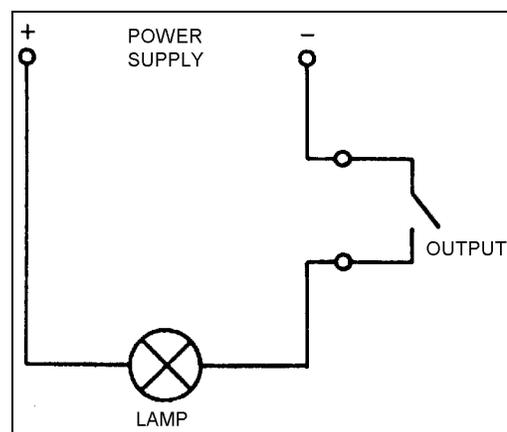

Figure 7-2
- ◆ Control current flow to operate an external device, such as a buzzer or lamp, as shown in Figure 7-2.